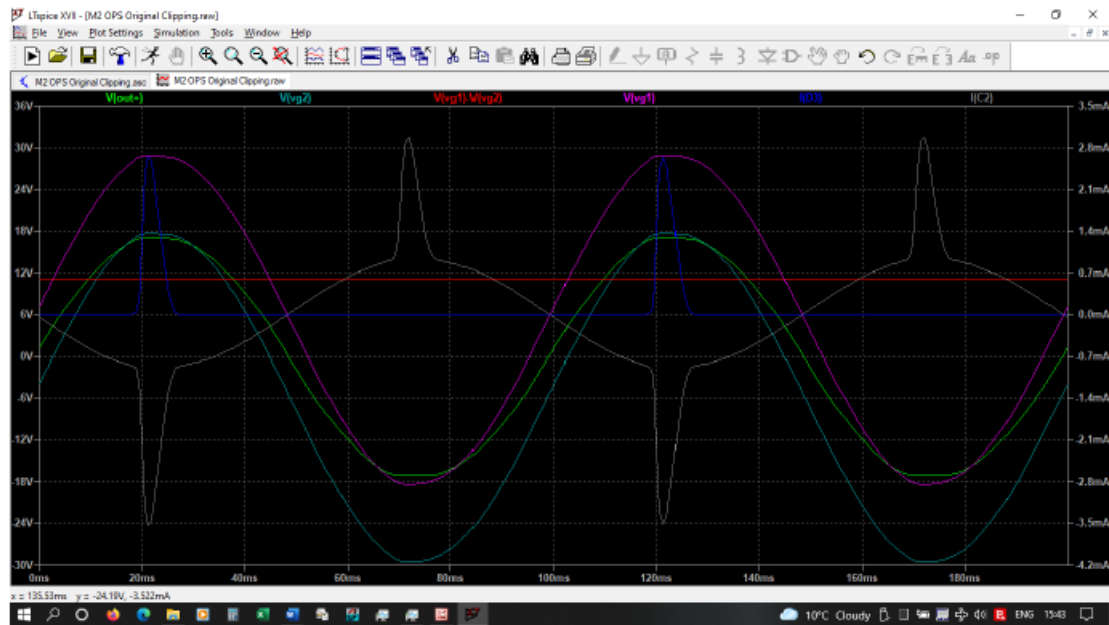
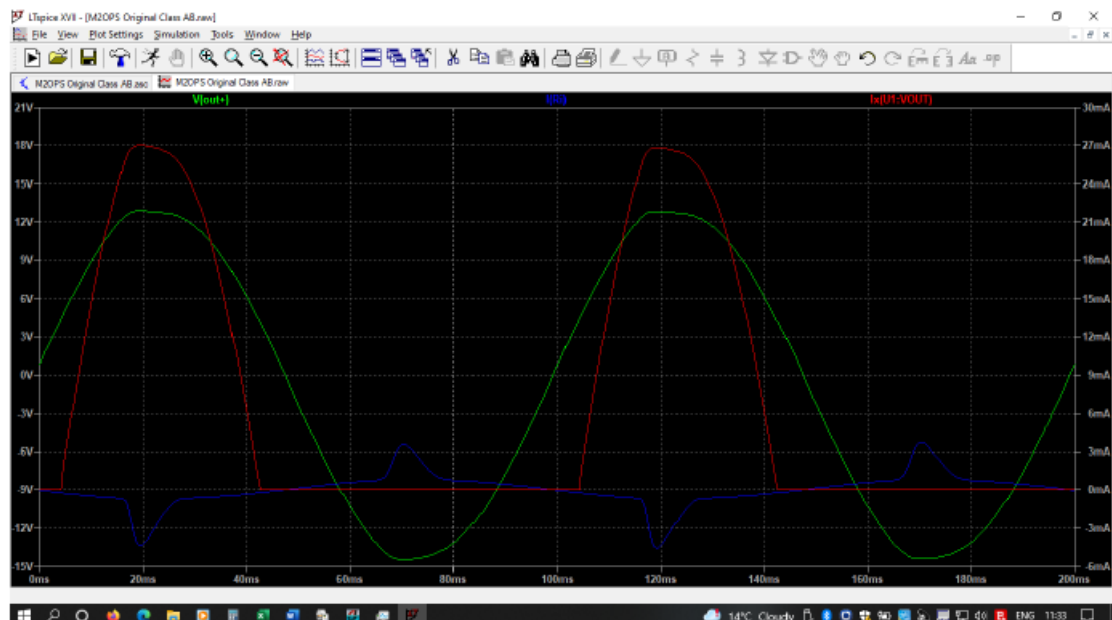

Fig. 3 24V in 10Hz 1.5R
Fig. 4 Optocoupler with Higher CTR
- We have mentioned above that the optocoupler has been changed to one with a lower CTR (4N26 instead of 4N35). What if we now put back in the 4N35, as specified ? You can see how it looks like in Fig. 4. Here, the input is only 20V into 1.5R, compared with 24V in Fig.3. So for Class B operation at least, a high CTR is not an advantage.